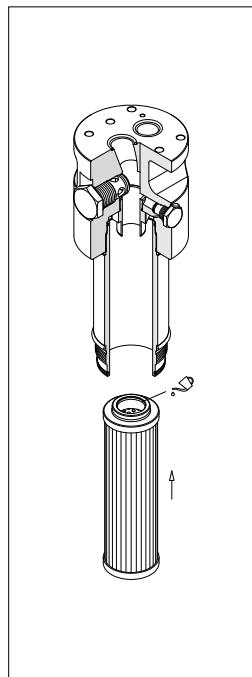

fig. 11
- (Fig. 11) Lubricate with the operating fluid the filter element O-ring, then fit the filter element on the tap.